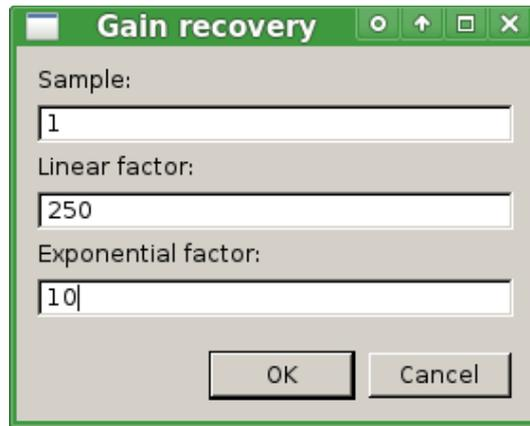

Figure 21. Manual gain settings.
**Gain recovery** is convenient to make up for the amplitude attenuation and the geometrical spreading. We can set a function, more or less like the “Time-Gain” filter of Måla Groundvision software, that combines a linear and an exponential factor: each sample since the initial one is multiplied by the equation  $p*(t/s)*n+e^{q*(t/s)*n}$ , where **p** is the linear factor, **q** is the exponential factor, **t** is the “time window” value in microseconds, **s** is the number of samples per trace and **n** is the number of samples filtered until that moment (figures 21 and 22).